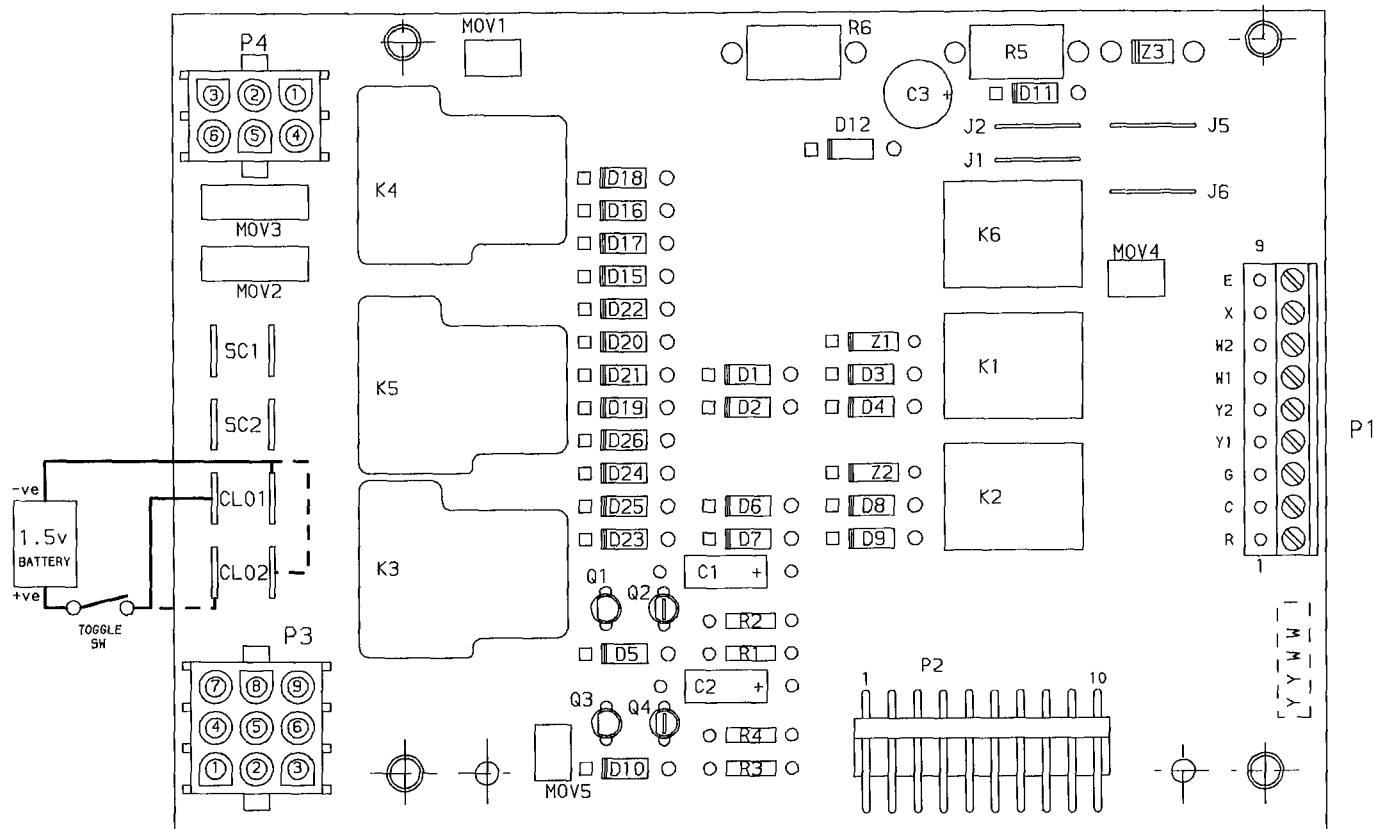

Fig. 35 — Compressor Lockout Connections
- d. Turn power to OFF. Use a toggle switch to connect a fresh 1.5-volt battery to the terminals marked CLO1 as shown in Fig. 35.
The negative (-Ve) pole of the battery must be connected to the inner terminal and the positive (+Ve) pole must be connected to the outer terminal as shown in Fig. 35.
- Turn power to OFF. Connect a fresh 1.5-volt battery to terminals marked CLO2 as shown in Fig. 35.